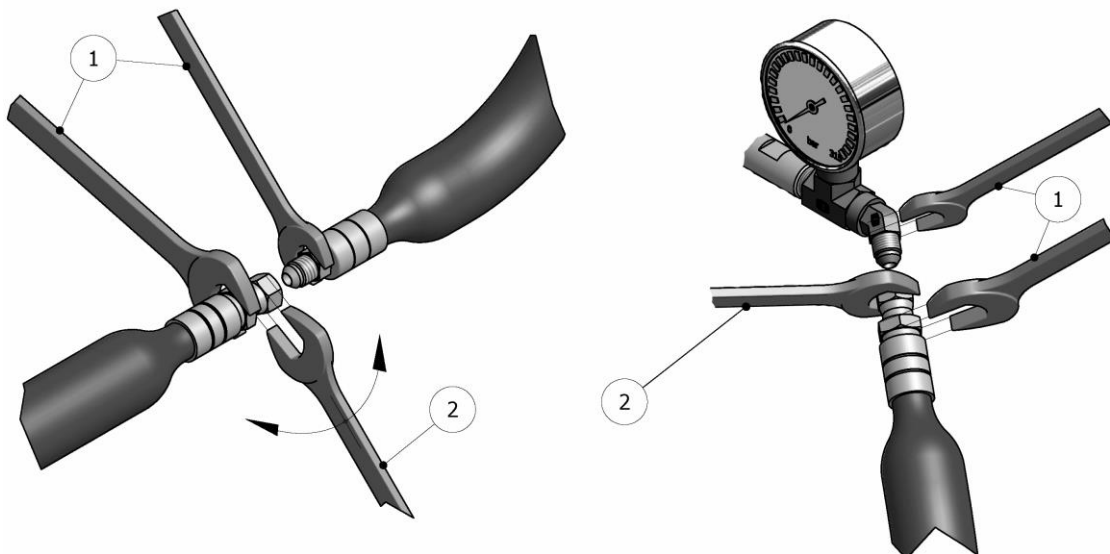

Figure 2. Method of union of the Hoses
WARNING! To join the hoses together or to connect them to the heaters or the gun, use two spanners to hold the parts to be joined (1) and a third spanner to tighten or loosen the connecting nut (2) as shown in the illustrations in Figure 2. The connections must be tightened to a torque of 20 Nm.